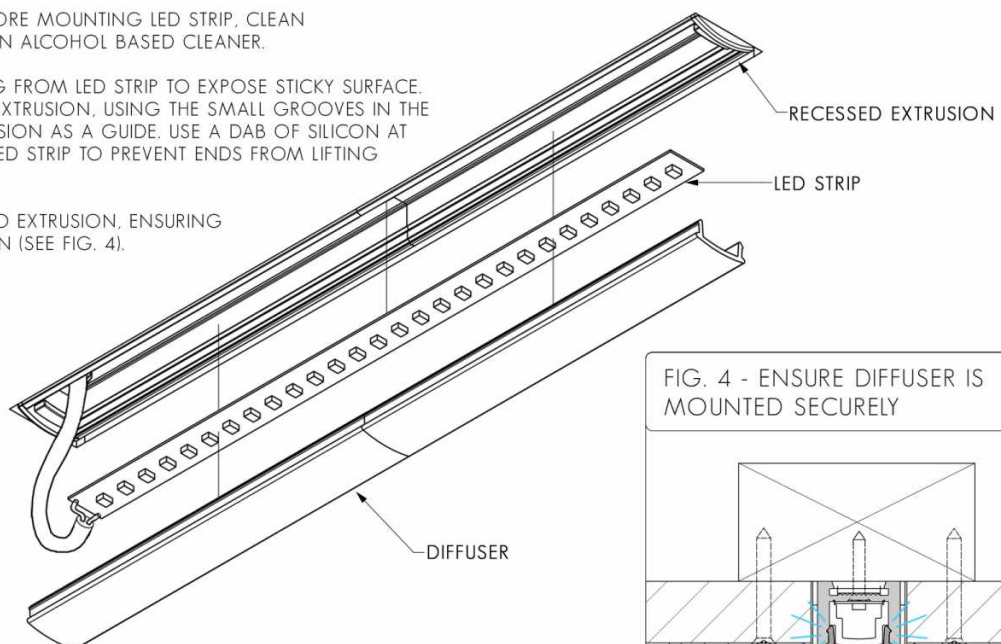

FIG. 4 - ENSURE DIFFUSER IS MOUNTED SECURELY
3. CLIP DIFFUSER INTO EXTRUSION, ENSURING A FIRM CONNECTION (SEE FIG. 4).